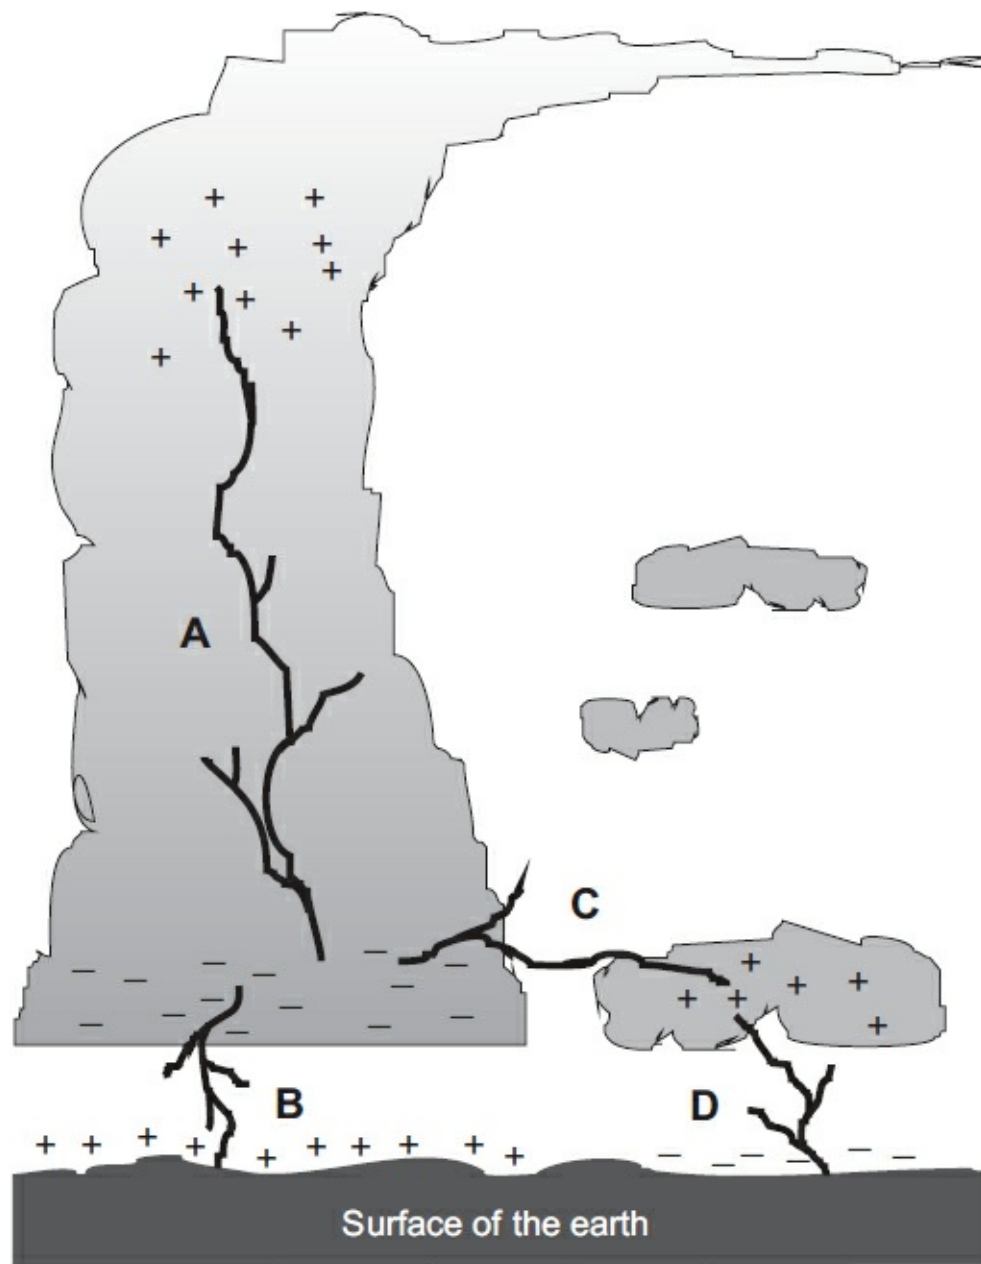

FIGURE 6-8 Four types of lightning stroke: intracloud (A), cloud-to-ground (B), intercloud (C), and ground-to-cloud (D).
1. Lightning that occurs within a single cloud (*intracloud*), shown at A in Fig. 6-8
2. Lightning in which electrons flow from a cloud to the earth’s surface (*cloud-to-ground*), shown at B in Fig. 6-8
3. Lightning that occurs between two clouds (*intercloud*), shown at C in Fig. 6-8
4. Lightning in which the electrons flow from the earth’s surface to a cloud (*ground-to-cloud*), shown at D in Fig. 6-8